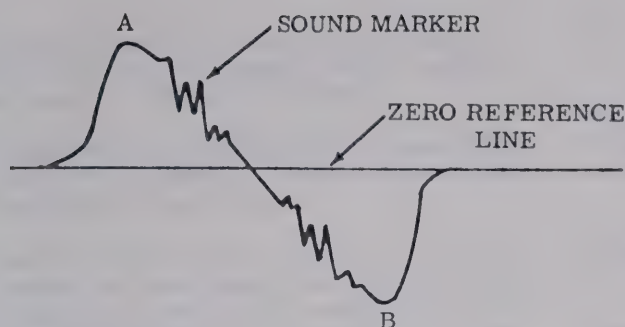

Figure 2-13. Typical Discriminator Response Curve
d. Adjust the primary and secondary of the discriminator transformer for maximum amplitude, maximum linearity between points "A" and "B", and symmetry above and below the zero reference line with the marker in the center as shown in figure 2-13.